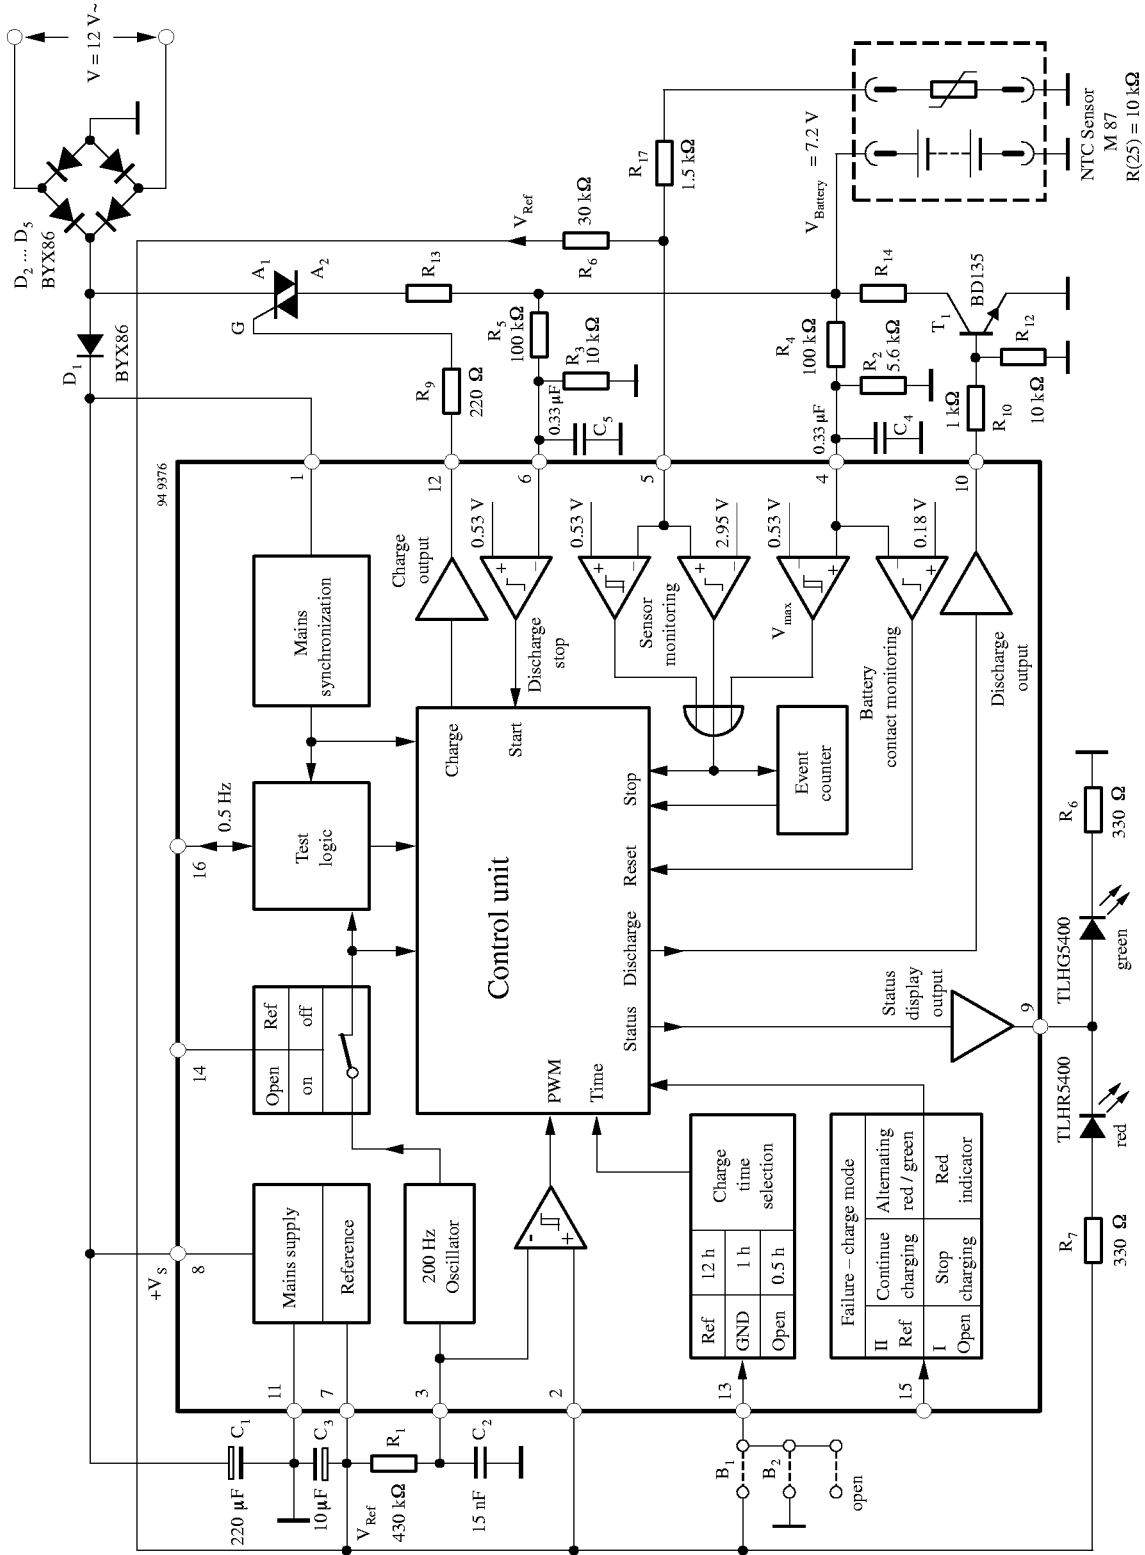

Figure 2.
**General Description, Figures 2 and 3**